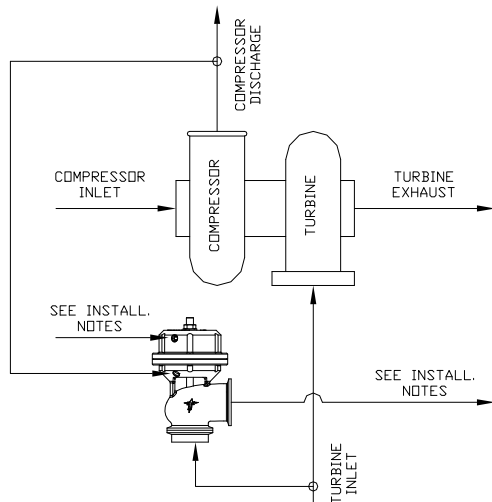

Figure 1:
1. The **RG-45 Wastegate** may be mounted in any convenient location, between the engine and the turbine inlet of the turbocharger (refer to Figure 1). For best results, the preferred location would be near the header collector, just before the turbine housing. When choosing the location of the wastegate, careful consideration should be taken to insure that the actuator section (top half of wastegate) is NOT exposed to extreme heat. If selected location places the actuator section close to a severe heat source, the use of a heat shield is highly recommended.
4. Refer to the schematic shown in Figure 1. A minimum sensing line (vacuum hose) size of 1/8" ID is recommended for proper response. The wastegate actuator ports are 1/8" NPT pipe thread. Use Teflon tape or comparable sealant on all fitting threads. Sensing line material should be suitable for automotive under-hood environment, and compatible with gasoline vapor. Care should be taken in routing sensing lines to avoid damage from any sharp edges or excessive temperatures.